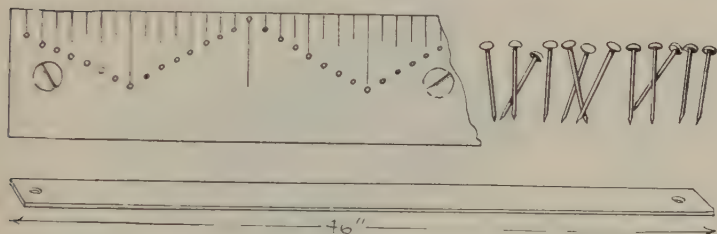

FIG. 95—DIAGRAM OF STRAIGHT EDGE AND RULE STRIPS
6. Buy one dozen brass escutcheon pins small enough to fit in these holes. (Fig. 95.)
7. Buy a steel straightedge $\frac{3}{32}$ " to $\frac{1}{8}$ " thick, 46" long, 2" to 3" wide. (Fig. 95.)